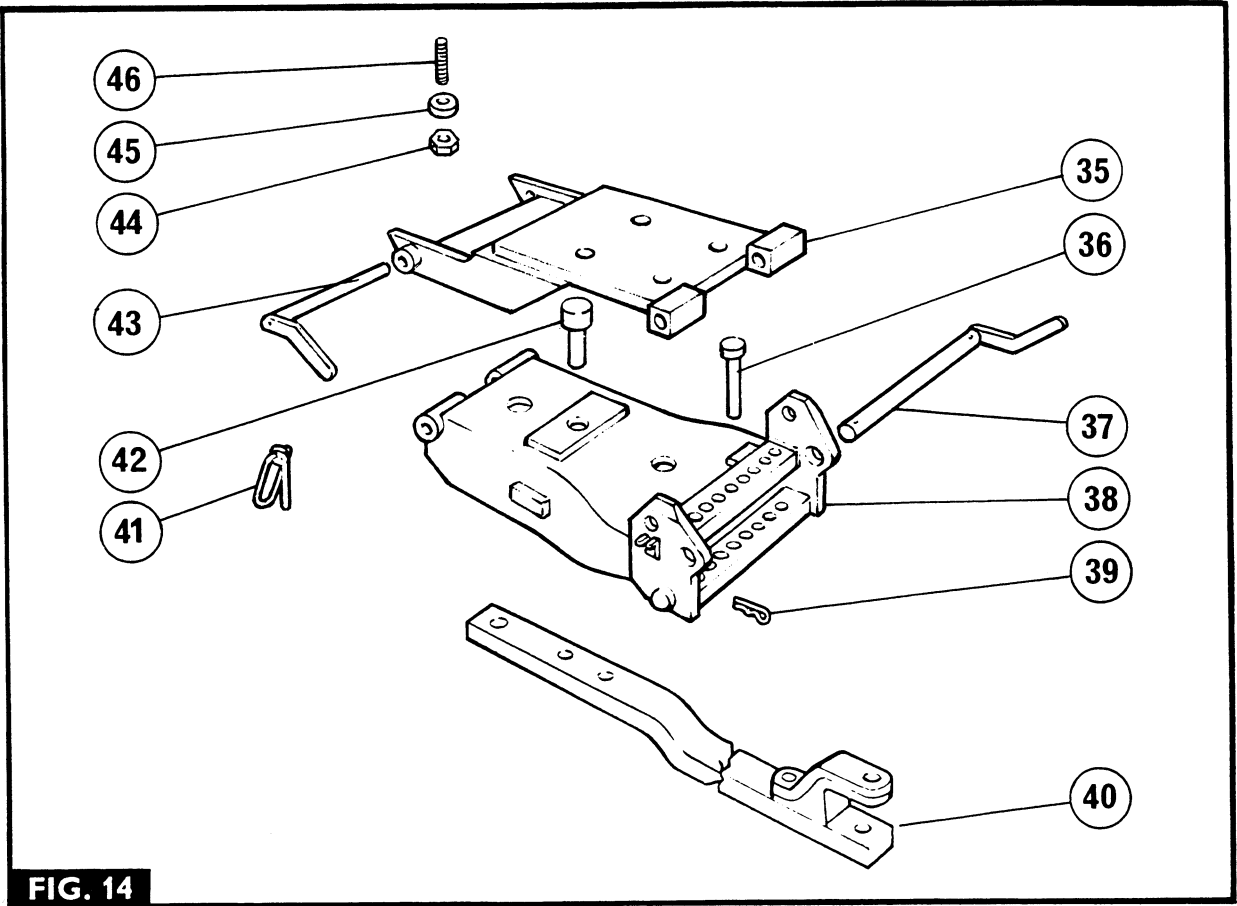
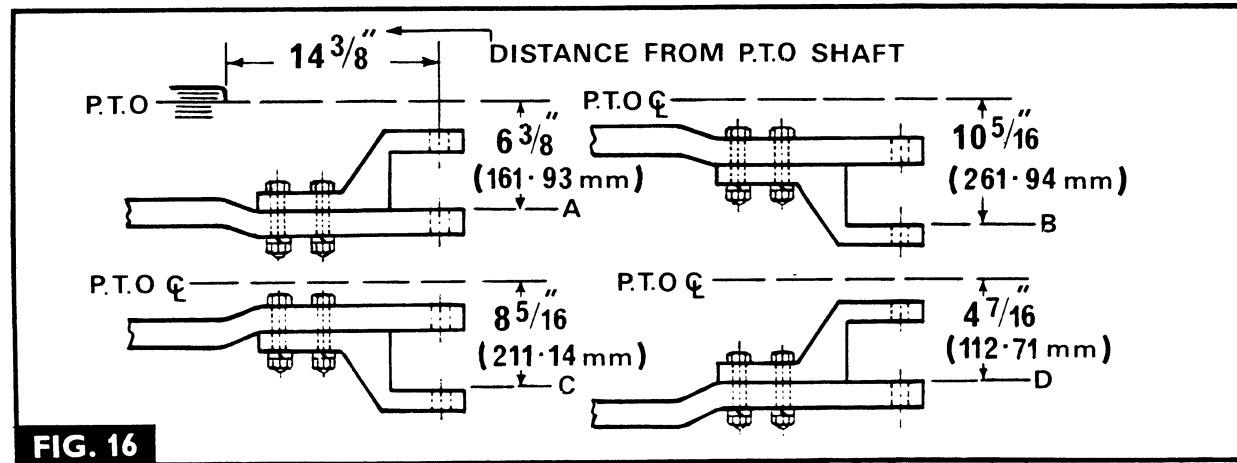

FIG. 14
FIG. 16
3. Fig 14. Screw the  $\frac{3}{4}$  UNC ends of the four studs (46) fully into the tapped holes in the centre housing.
**Offset:** Fig. 14 and 15 Remove the linch pin (41) and withdraw the support bar (37), thus freeing the drawbar frame. Remove the two hairpins (39) and the locating pins (36) then reset the drawbar in the required position. Refit the locating pins (36), the hairpins (39) to secure the drawbar, then refit the rear pin (37) and the linch pin (41).
**Length:** Remove the linch pin (41) and the support bar (37). Push the drawbar anchor pin (42) upwards this freeing the drawbar. Adjust the drawbar for length, refit the anchor pin (42), raise the drawbar frame, then refit the rear pin (37) and the linch pin (41).
**Height:** Fig 16. The drawbar can be adjusted as shown, but the bolts must be kept tight.
2. Fig. 14. Place a hydraulic jack under the drawbar frame, then remove the linch pin (41) and the support bar (37), Lower the support bar to the ground.